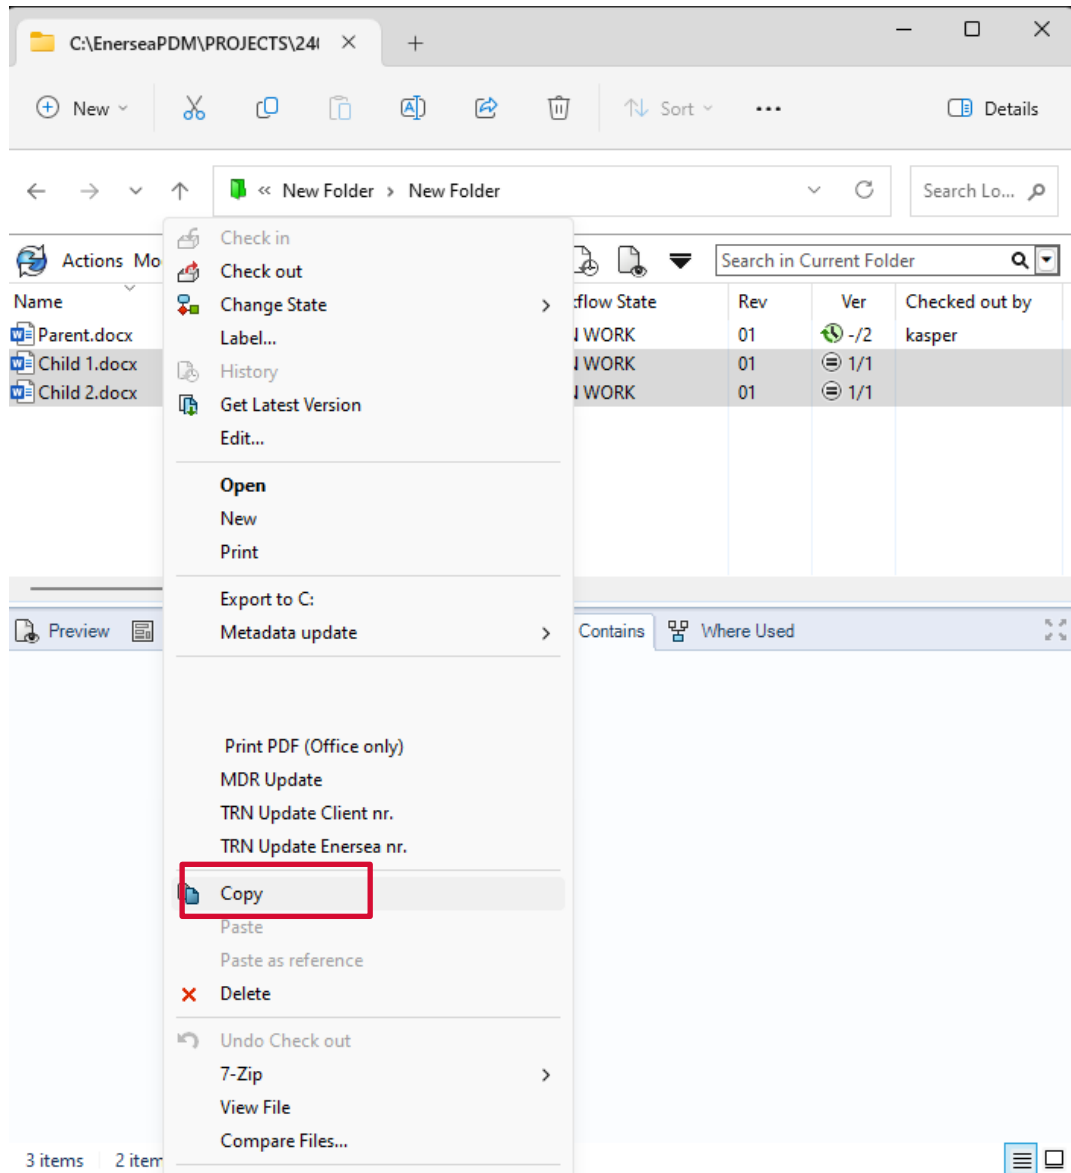

Figure 32 Copy child documents.
2. Copy the documents (Ctrl-c or right click -> Copy) (Figure 32)